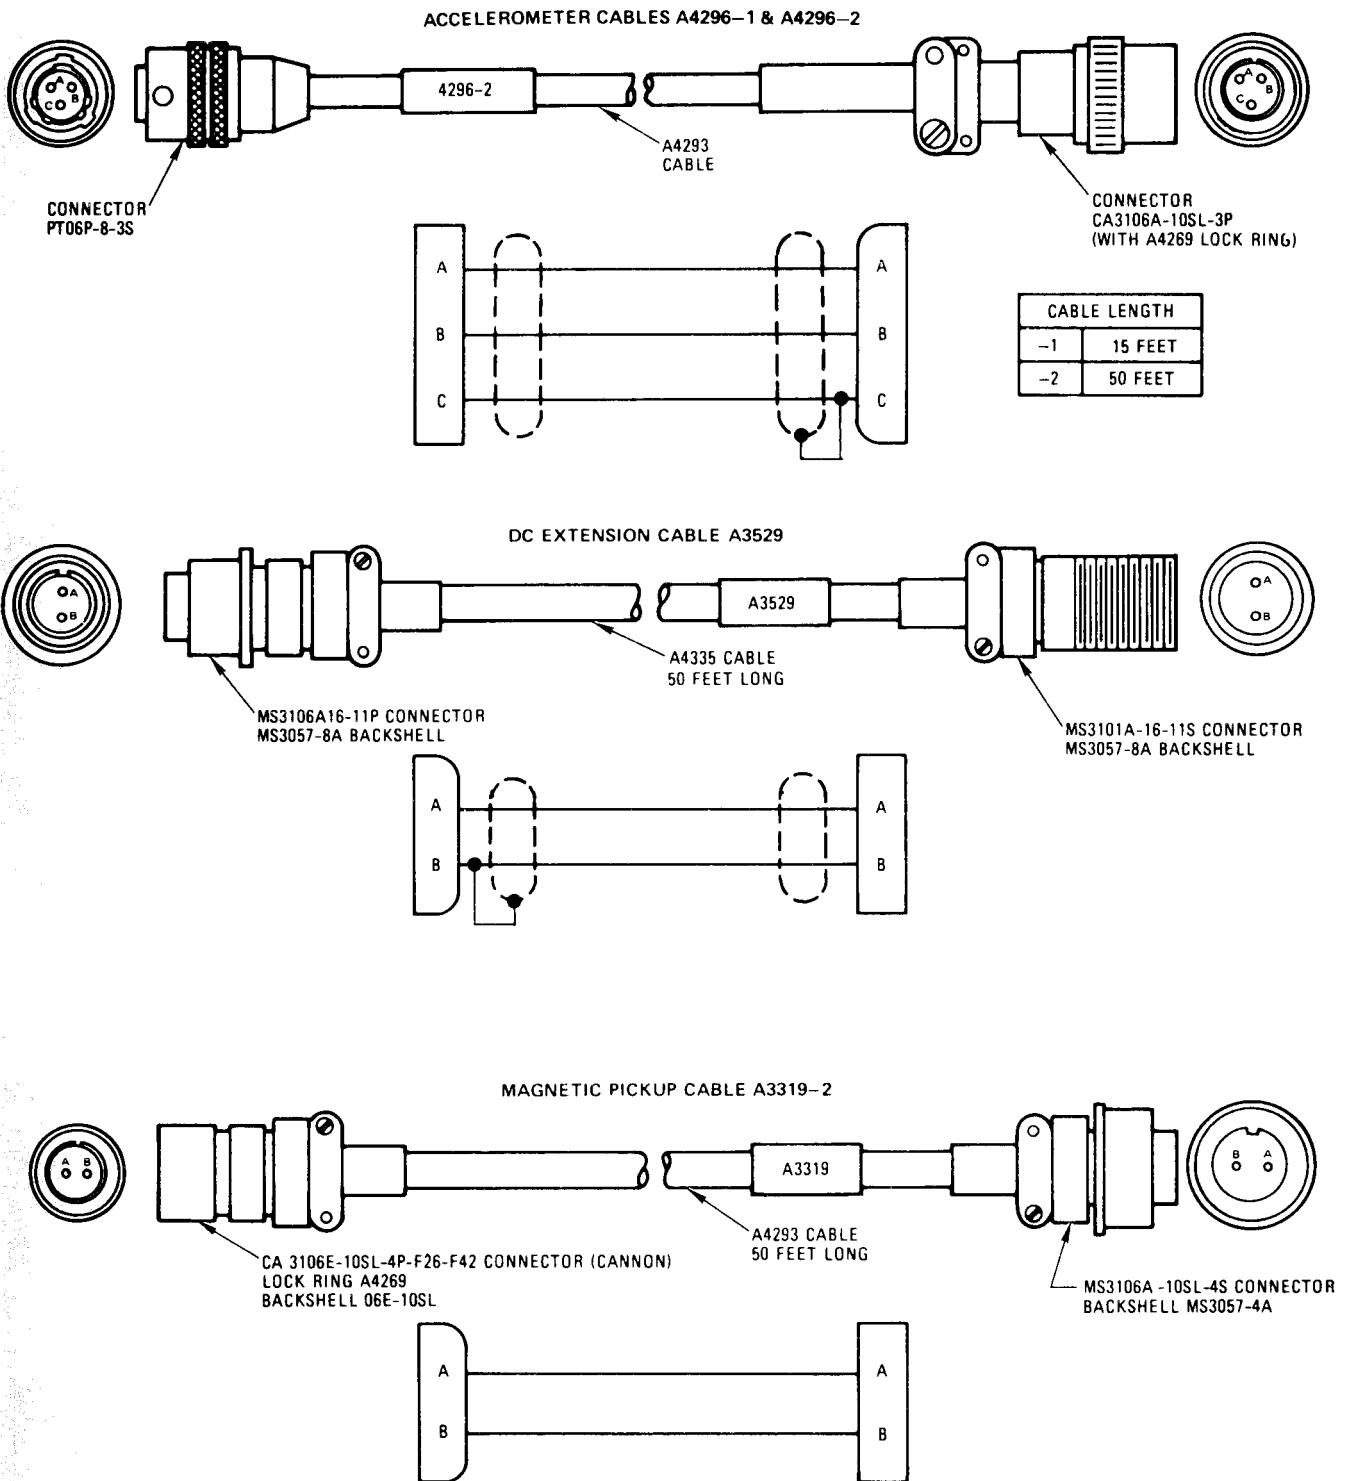

Figure 4-15. Cables A4296-1, A4296-2, A3529, and A3319-2
b. Magnetic Pickup. These tests will determine the operational capability of the Magnetic Pickup and Magnetic Pickup Cable. Refer to Fig. 4-15 for a schematic diagram of the Magnetic Pickup Cable and perform resistance checks in accordance with tables 4-12 & 4-13, respectively.
4-16. DC Cables. These tests will determine the operational capability of the DC Extension Cable and DC Adapter Cables. Refer to figures 4-15 + 4-16. for schematic diagrams of the DC Extension Cable and DC Adapter Cables an perform resistance checks in accordance with Table 4-14.